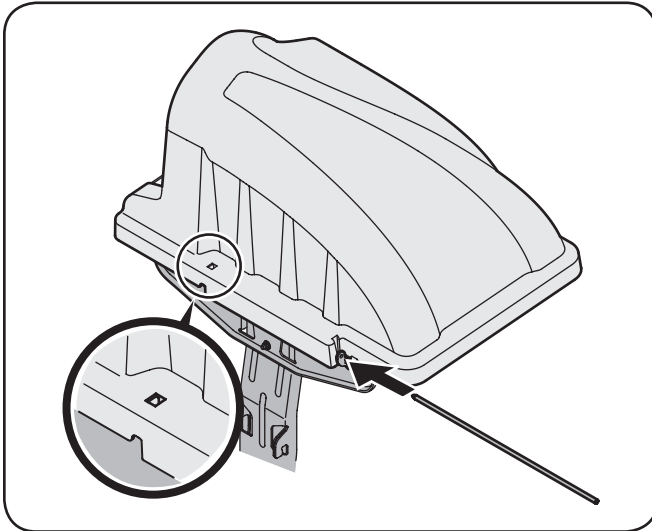
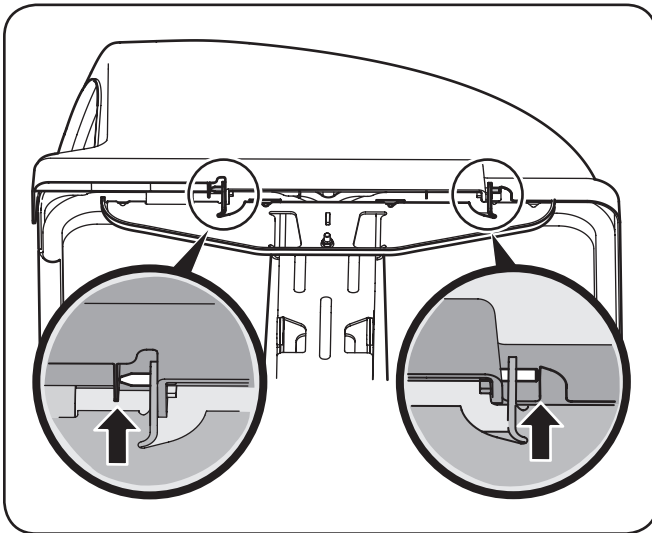

Figure 4-16
Figure 4-17
- Slide the hinge pin into the hole located on the mounting tab, as in Figure 4-16. Use the cut-out window (See inset in Figure 4-17) to line up the hinge pin on the other side and push pin all the way in until it reaches the end-stop. At this point the pin clips into place and is secured by a tab in the bagger cover. See Figure 4-17.